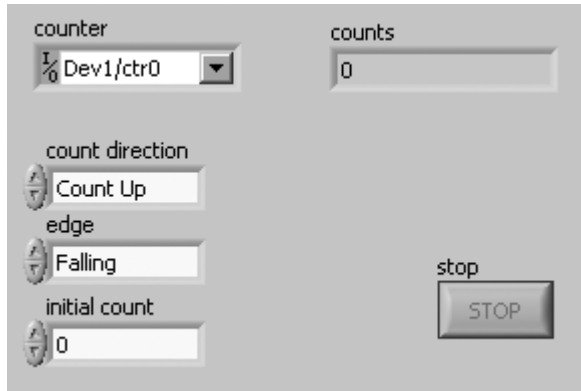

Figure 11.70
2. Build the front panel and block diagram shown in Figures 11.70 and 11.71. All of the DAQmx VIs used in this example are found on the **Measurement I/O>>DAQmx** palette.